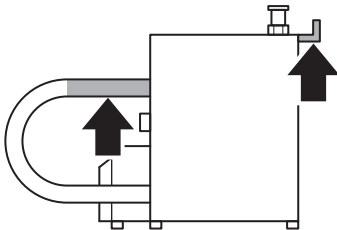

Figure 4 Docker Lift Points
**WARNING: HEAVY EQUIPMENT** – ALWAYS have more than one person lift this equipment from the shipping pallet using the lift points (Figure 4). See the *Specifications* section for docker weight. Failure to comply may result in personal injury.